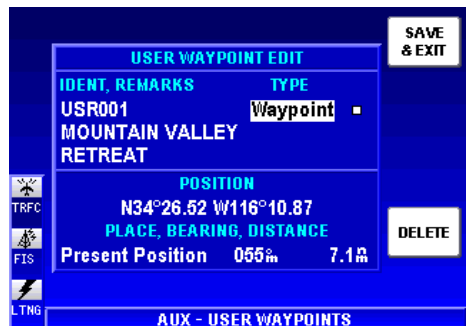

Figure 1-81
1. Use the Joystick to place the cursor over the **TYPE** field as shown in Figure 1-81.